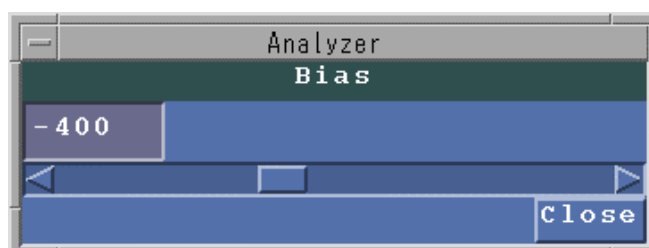

Fig. 19 Bias window
- ◆ Click on the **Bias Volt** button in the Engineer use window. The Bias window opens as shown in Fig. 19.